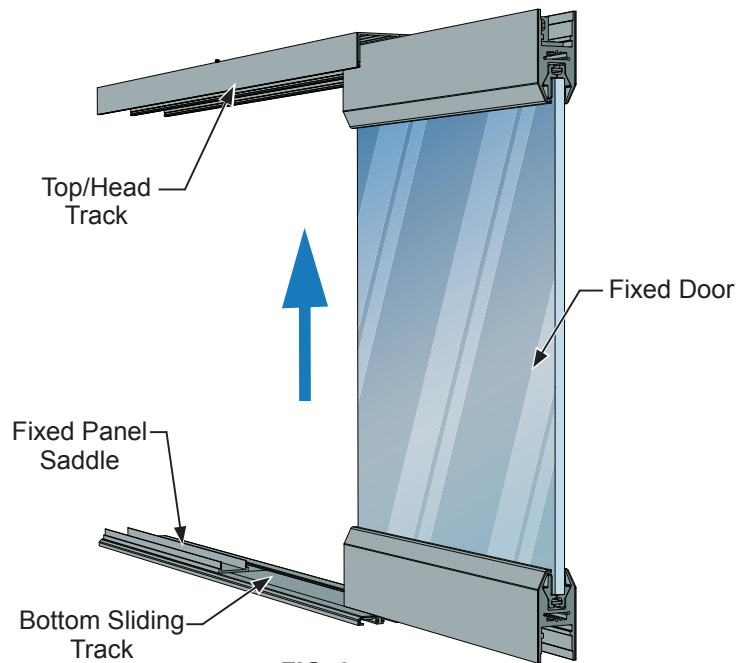

FIG. 9
7. Lift the fully assembled Fixed Door into the Top/Head Track. (FIG. 9)